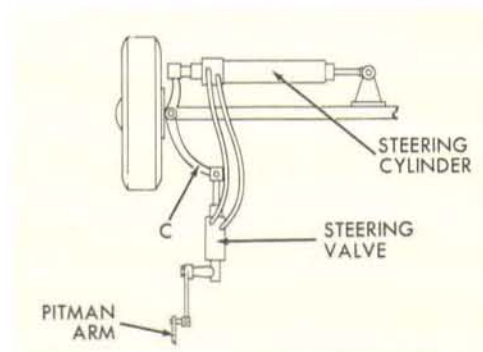

Figure 181
Figure 181 illustrates a typical linkage system using a remotely mounted valve. The valve is connected between the Pitman arm and a secondary steering arm (C). The vehicle actually could be steered mechanically through this connection. The boost is applied from the power cylinder, which is mounted between the frame and the primary steering arm.